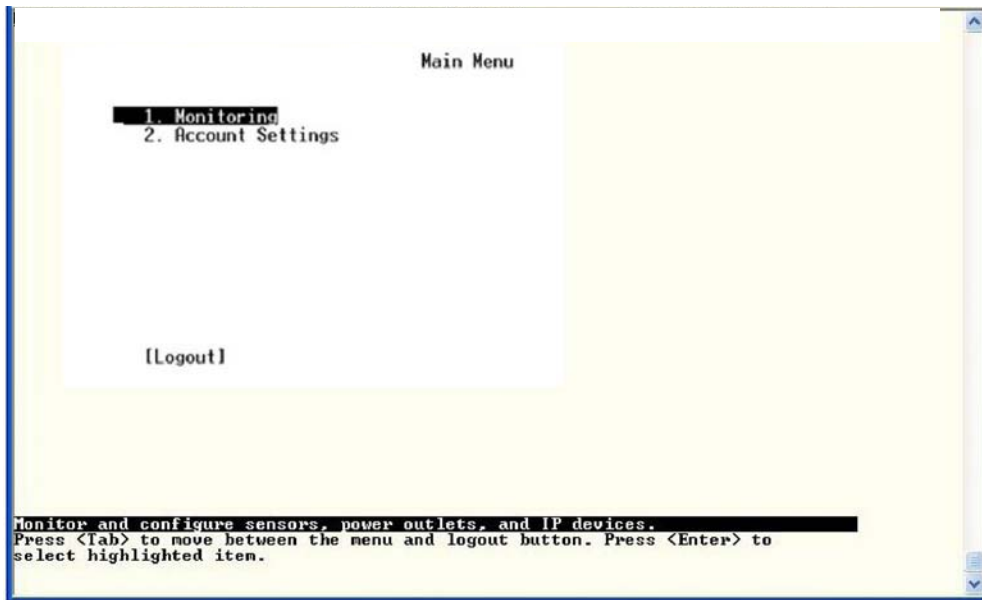

Figure 63- Text Menu- User Main Menu
- To move from menu list to action key (such as “Logout” in Figure 63 above), press <Tab>.